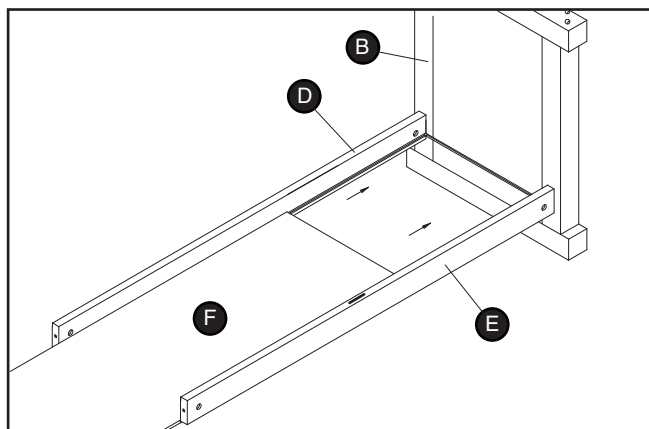

Figure 4. Lower panel installation.
3. Insert the two lower cross braces (D & E) into the slots in the right leg (B).
5. Slide the lower panel (F) into the slots of the two cross braces, and then into the slot in the right leg (B) (**Figure 4**).